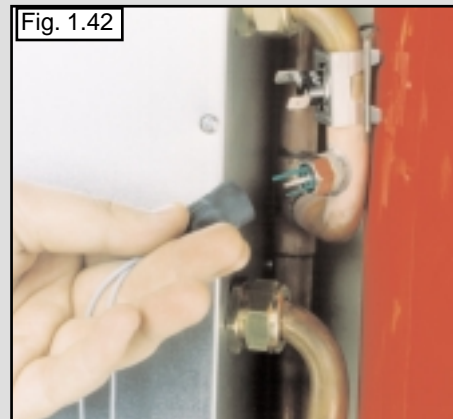

Fig. 1.42
1. Remove the electrical connector by pulling off the thermostat connections (see fig. 1.42) and unscrewing the sensor probe with a 14 mm open ended spanner (see fig. 1.43).